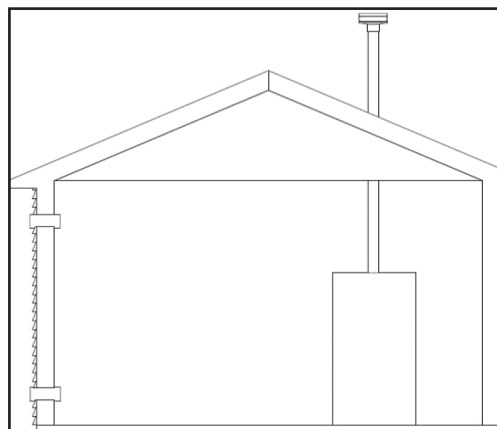

Figure 15 - Combustion Air from Outdoors
1. If air is taken directly from outside the building with no duct, provide two permanent openings to the mechanical room each with a net free area of one square inch per 4000 BTU/hr input. See Figure 15.